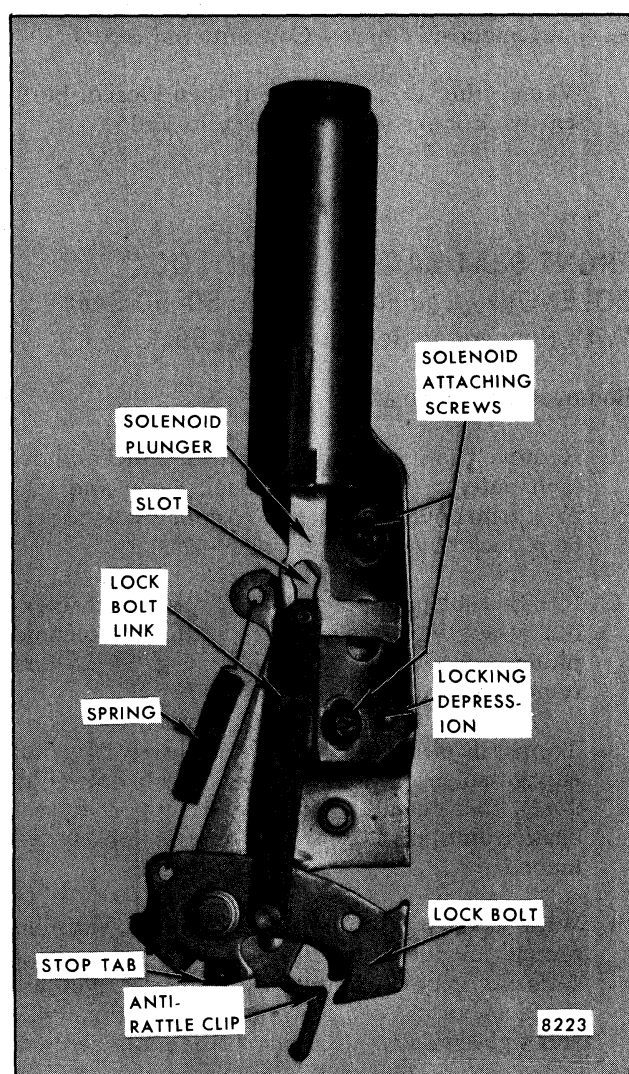

Fig. 9-54-Front Seat Back Electric Lock Solenoid and Support Assembly - All Two-Door Styles with Standard Full Width, 60-40 or 40-40 Seats
2. Remove position lock screw and two solenoid support-to-lock attaching screws; then disengage solenoid plunger bar from lock link (Fig. 9-54) and remove assembly from lock.
4. To install solenoid and support assembly, engage solenoid plunger bar to lock link; then install loosely two solenoid support-to-lock attaching screws (Fig. 9-54). With lock hook tight against stop tab (see Fig. 9-54) extend solenoid plunger bar all the way out of solenoid; then adjust solenoid support until the lock link rivet just contacts bottom of slot in solenoid plunger bar (see Fig. 9-54) and tighten securely solenoid support attaching screws.